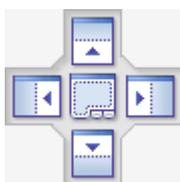

Figure 4-3. Position indicator to move tab
5. Move the cursor over the position indicators, see Figure 4-3.